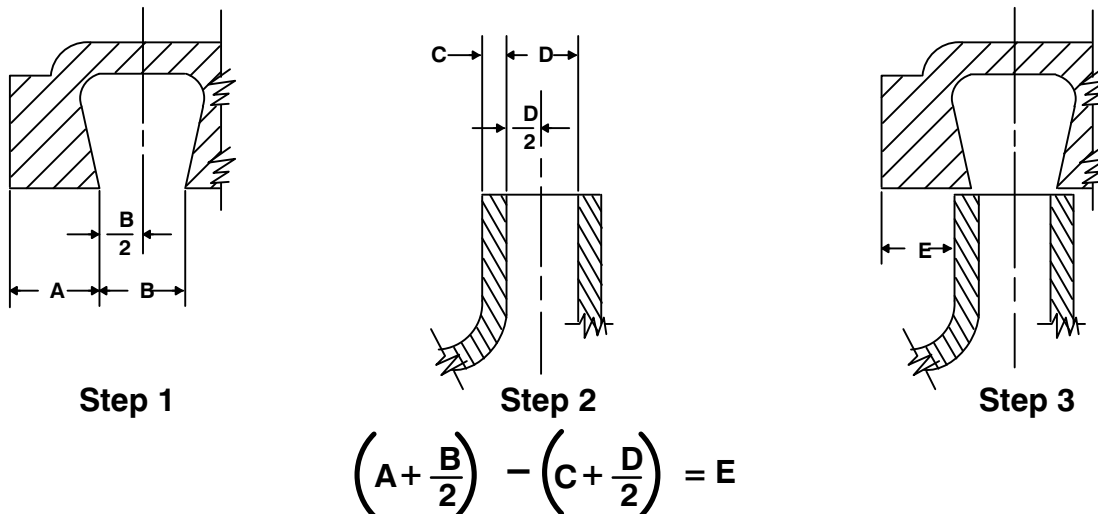

Figure 4. Centering Impeller Within Pump Casing
To verify the impeller positioning, measure the pump casing and impeller as shown in Figure 4. Use these measurements to calculate the required impeller location (dimension E). Add or remove gaskets in the pump casing gasket set (23) until dimension E is obtained.